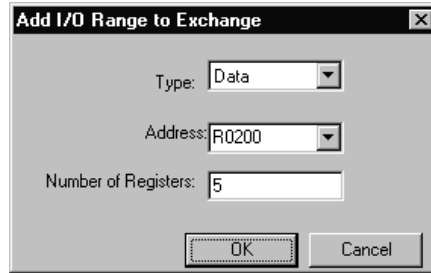

Figure 6.12 – Consumed Exchange 2 Data Block Definition – Node 1
5. Click on the **Add Range** button, in the EGD Configuration dialog, to define a Data Block for Consumed Exchange 2. Then fill in the parameters, as shown in Figure 6.12 below, and click **OK**.